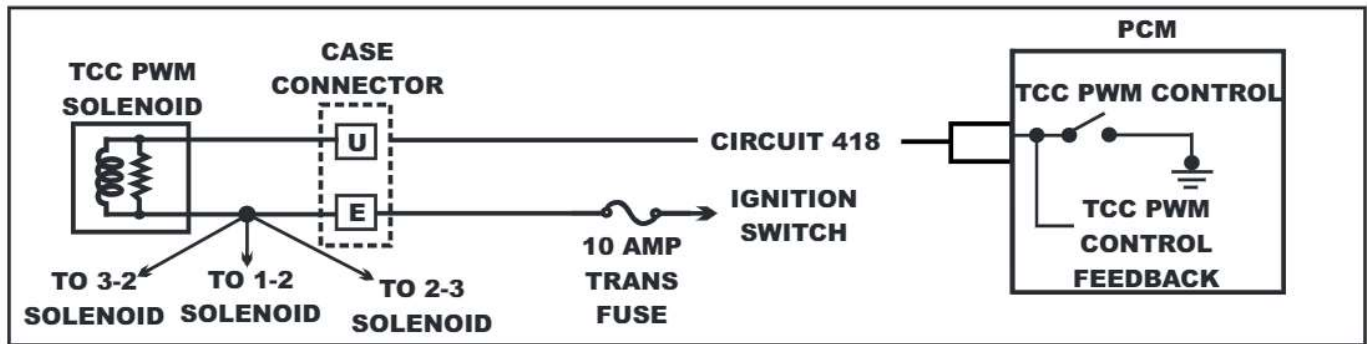

Figure 113
- The TCC PWM Solenoid is supplied "Key On" power through case connector terminal "E". The PCM/VCM controls the solenoid through the ground side on Circuit 418 at case connector terminal "U", Refer to Figure 113.
- There are times when the scan tool will indicate that the command to turn the solenoid on has been sent, when in reality it has not. Use a volt meter on Circuit 418 (Usually Brown) to insure that the voltage is being pulsed to ground during solenoid "ON" time, Refer to Figure 113.
- A faulty ignition switch, causing intermittent power loss to case connector terminal "E". (Other solenoid codes should be stored). Refer to Figure 113.
- It would be best to snip the Circuit 418 wire (See Figure 113) about 3 inches away from the computer and the transmission and replace it in order to save time.